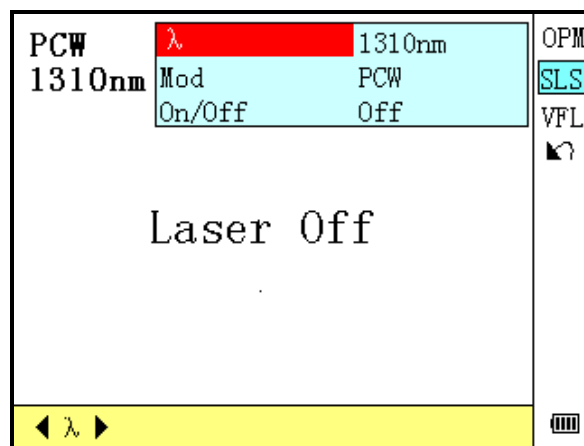

Figure 4-12. Stabilized Laser Source Setting
- Use [◀] and [▶] to toggle between SLS working wavelengths. Press [Enter] to enter SLS setting interface as shown in Figure 4-12.